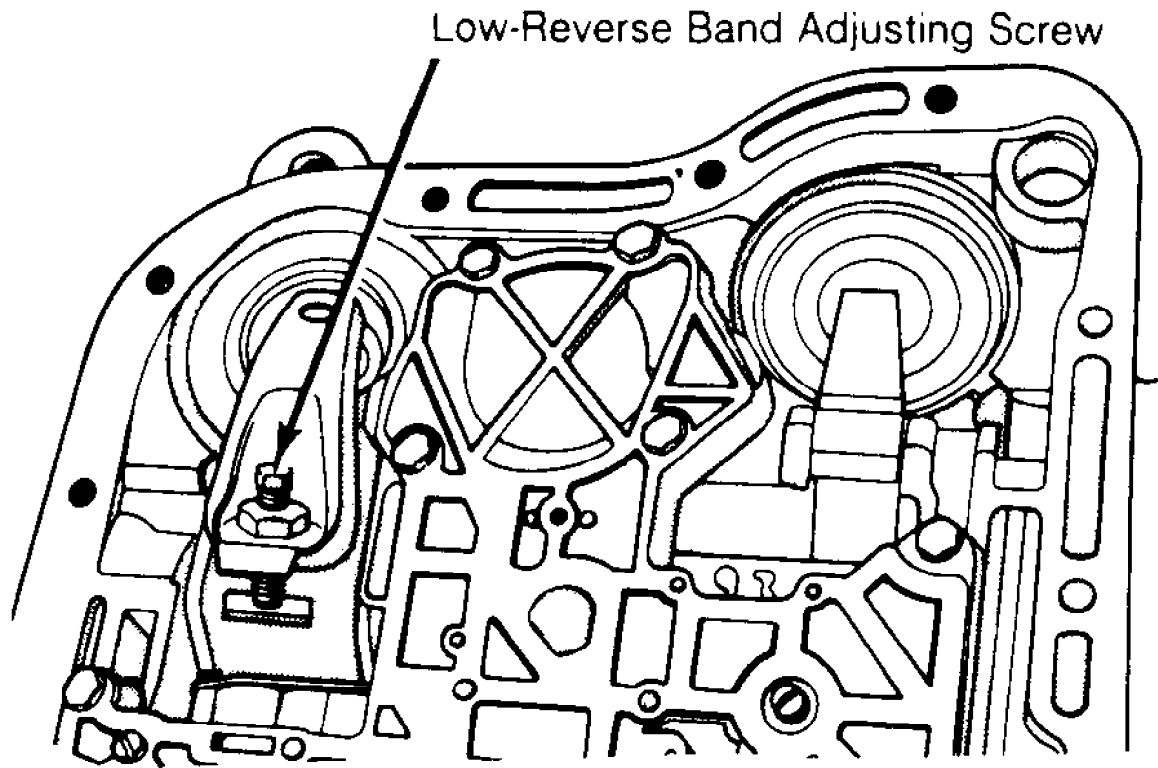

Fig. 2: Adjusting Low-Reverse (Rear) Band (Typical)
1) Raise and support vehicle. Drain transmission fluid and remove oil pan. Locate low-reverse band adjusting screw on rear servo lever. See Fig. 2. Loosen adjusting screw lock nut. Back off lock nut 5-6 turns.